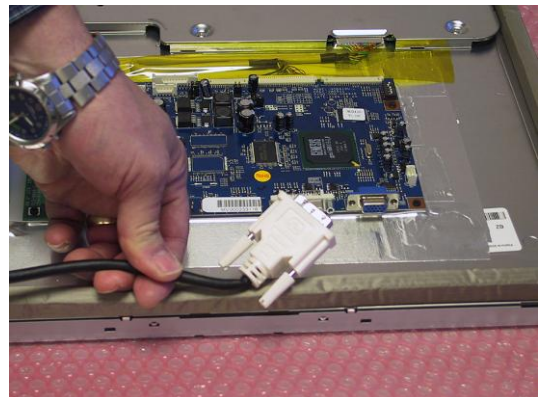

**Figure 4-28**
- 18) Gently lift the LCD away from the inner chassis and lay it face down on a protective surface. Disconnect the data cable from the LCD (Figure 4-28). Unscrew the jack screws attaching the data cable to the LCD (Figure 4-29) and detach this cable (Figure 4-30).